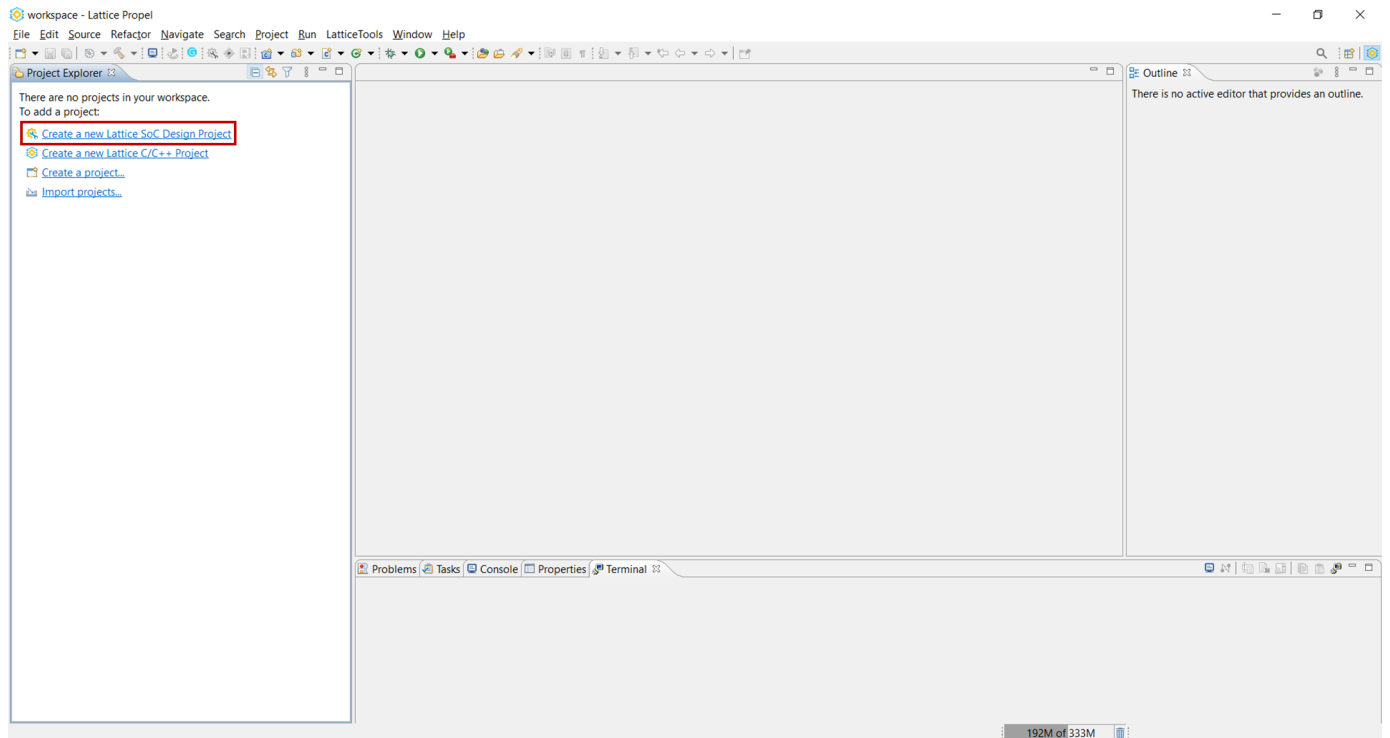

Figure 5: Creating a new Propel Design Project
2. From the **Project Explorer**, select **Create a new Lattice SoC Design Project**, see **Figure 5**.